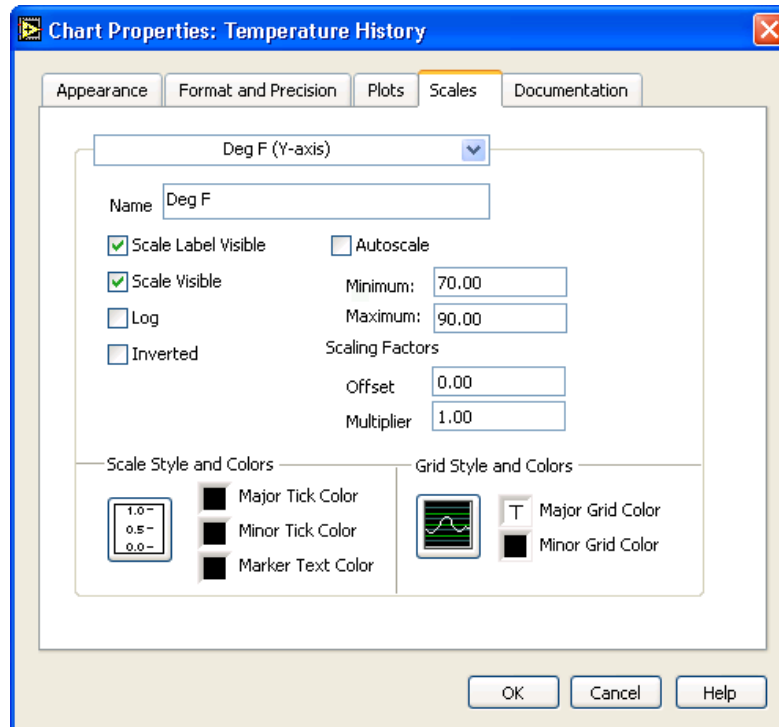

Figure 7.9
- (e) In the Scales tab, select the Deg F (Y-axis) in the top pull-down menu. Set the scale options as shown in Figure 7.9.